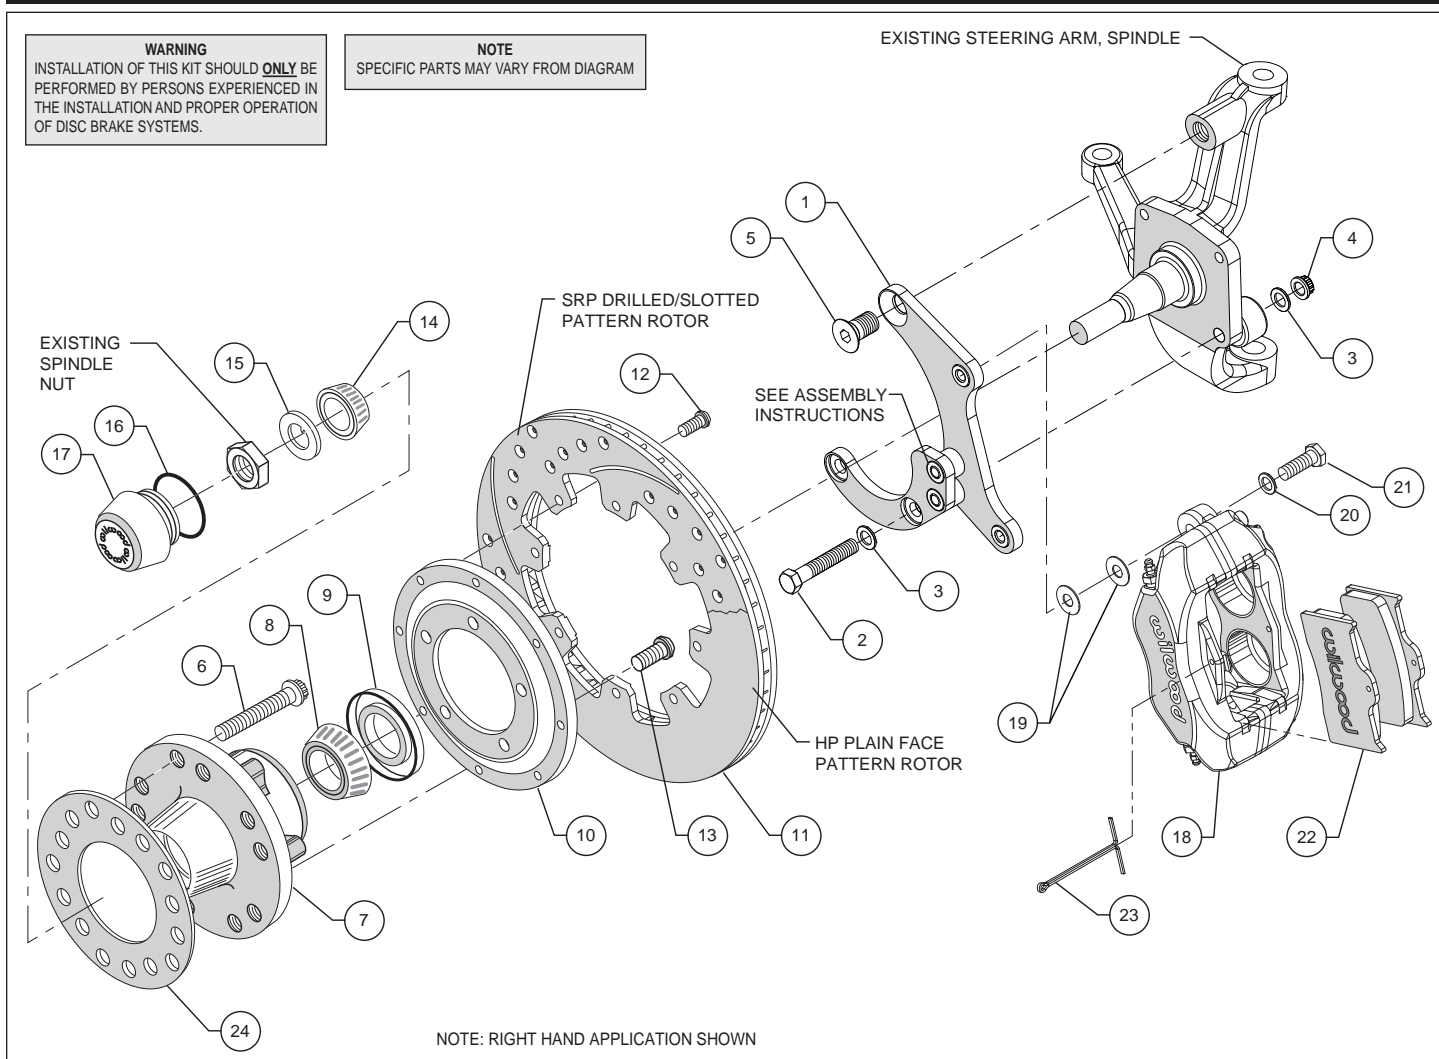
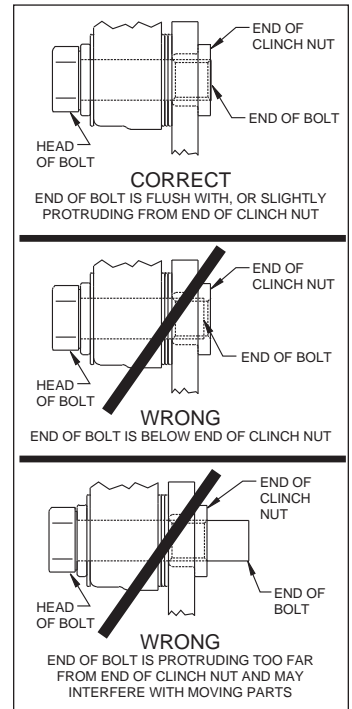

Figure 1. Typical Installation Configuration
Figure 3. Clinch Nut Engagement Diagram
**Assembly Instructions** (numbers in parenthesis refer to the parts list and Figure 1 on the preceding pages): **CAUTION:** All mounting bolts must fully engage clinch nuts. Be sure to check that all bolts are either flush or protruding through flanged side of clinch nut after shimming, Figure 3.
- The caliper mounting bracket (1) has been assembled at the factory for alignment purposes. Loosen the two bolts that secure the brackets together so that the bolts are hand tight only, this will enable the bracket assembly to be adjusted to accommodate various spindle tolerances during assembly. Align bracket with the two lower holes on the spindle face and attach using bolts (2), washers (3), and secure using lock nuts (4), as shown in Figure 1 and Photo 1. Install bolt (5) through top of bracket and into the spindle. Temporarily tighten the mounting bolts. Ensure that the flanged heads of the clinch nuts in the bracket are facing outboard, Photo 1. **NOTE:** The bracket must fit squarely against the mounting points on the spindle. Inspect for interference from casting irregularities, machining ridges, burrs, etc. Torque lower bolt nuts to 47 ft-lb. Remove the upper bolt, apply red *Loctite*® 271 to threads, and torque to 140 ft-lb. Remove one at a time the bolts that secure the bracket assembly to each other, apply red *Loctite*® 271 to the threads and torque to 40 ft-lb.
- Install the grease seal (9) by pressing into the backside of the hub (7), flush with the end of the hub, Photo 3.
- Orient the rotor (11) and the rotor adapter (10) as shown in Figure 1 and Photo 4. Attach the rotor to the adapter using bolts (12). Using an alternating sequence, apply red *Loctite*® 271 to the threads, and torque to 25 ft-lb.
- Mount the adapter/rotor assembly (10/11) to the hub (7) using bolts (13), as shown in Figure 1 and Photo 5. Using an alternating sequence, apply red *Loctite*® 271 to the threads, and torque to 55 ft-lb.
- Pack the small outer bearing cone (14) with high temperature disc brake bearing grease and install into hub (7). Slide the hub/rotor assembly onto the spindle. Secure using spindle washer (15) and OEM spindle nut, Photo 6. Adjust bearings by tightening the wheel bearing nut to 60 **in-lbs.** while turning the hub/rotor assembly (10/11). Install saved OEM nut lock (if any) on the wheel bearing nut with one pair of slots in-line with (covering) the cotter pin hole. Back off the adjusting nut lock assembly (or castle nut) one slot and install a new cotter pin (not supplied). **The resulting adjustment should be zero (no pre-load to 0.003 inch end play).**
- Screw dust cap (17) into hub (7), Photo 7. Friction created by the o-ring (16) on the dust cap keeps it from unscrewing. **NOTE:** The O.D. of the existing OEM spindle washer may be larger than the I.D. of the dust cap not allowing it to seat against the hub face. Therefore, use the spindle washer (15) supplied with the kit instead of the OEM washer.
- NOTE:** Please reference the caution statement at the beginning of the assembly instructions. Mount the caliper (18) onto the caliper mounting bracket (1) using bolts (21) and washers (20), as shown in Figure 1. Initially place two .035" thick shims (19) on each bolt between the caliper and the bracket, Photo 8. Temporarily tighten the mounting bolts and view the rotor (11) through the top opening of the caliper. The rotor should be centered in the caliper, Photo 9. If not, adjust by adding or subtracting shims between the bracket and the caliper. Always use the same amount of shims on each of the two mounting bolts. **NOTE:** The end of each bolt must be flush with or slightly protruding from the head of the clinch nut, as shown in Figure 3. If necessary place spare shims between washer (20) and caliper mounting ear to achieve the proper clinch nut engagement. Once the caliper alignment and clinch nut engagement are correct, remove the bolts one at a time, apply red *Loctite*® 271 to bolt threads, and torque to 40 ft-lb.
- Install the disc brake pads (22) into the caliper, with the friction material facing the rotor (11), and secure in place using cotter pin (23), Photo 10.